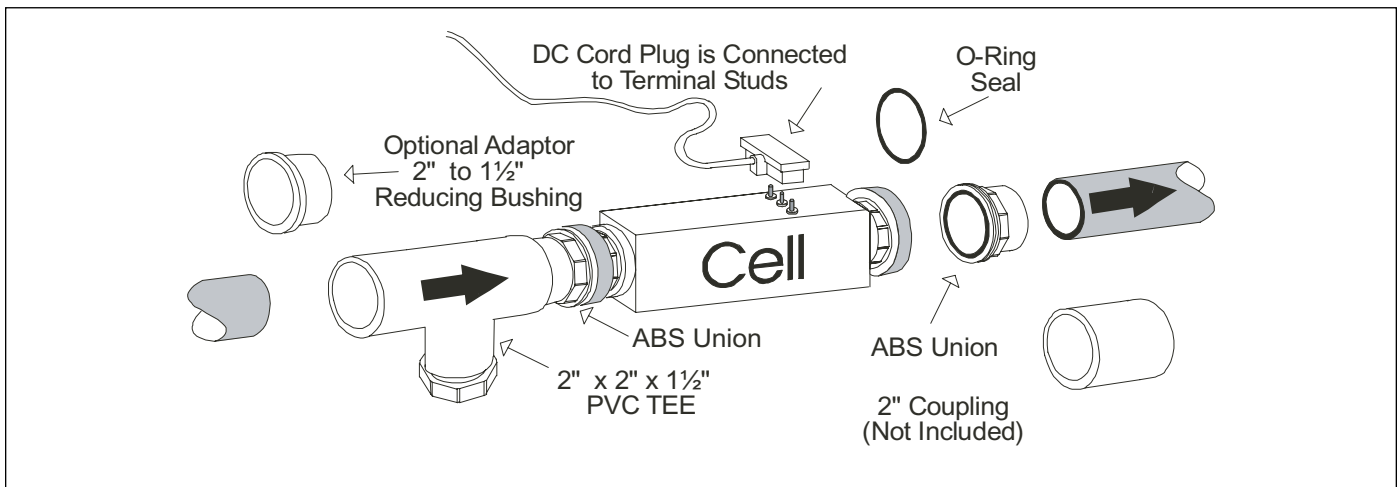

Figure 12. Cell Installation
2. It is recommended that the Flow/Temp/Salinity Sensor and Electrolytic Cell be installed in the pool return line after the filter and heater. Water passes through the Flow/Temp/Salinity Sensor before the Cell. The Cell can be installed in either a horizontal (as shown in Figure 12) or a vertical position.